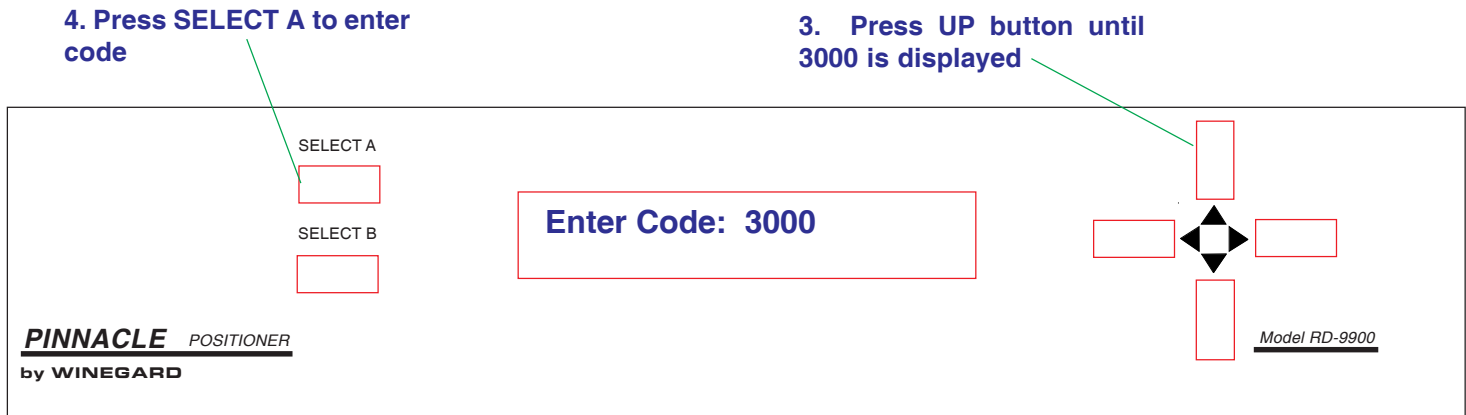

Figure 30
3. Press **[UP]** arrow button until positioner display shows **3000**. See Figure 30.
4. Press **[SELECT A]** **Enter Code: 3000** to access Edit Menu. See Figure 30